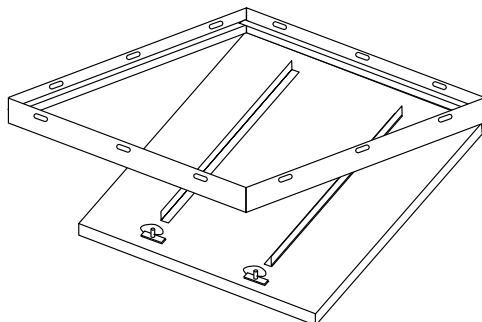

Figure 2
- ② Hold door so bottom of hinge is even with ceiling tile surface, and determine vertical location for bolt holes in framing channels opposite slots in door frame. Bolt channels to frame.
- ③ Place door in position, aligned with the rows of tile, and secure the framing channels to the main runners. Installation of door is now completed (see Fig. 2) and tile may be installed in the area surrounding the door.